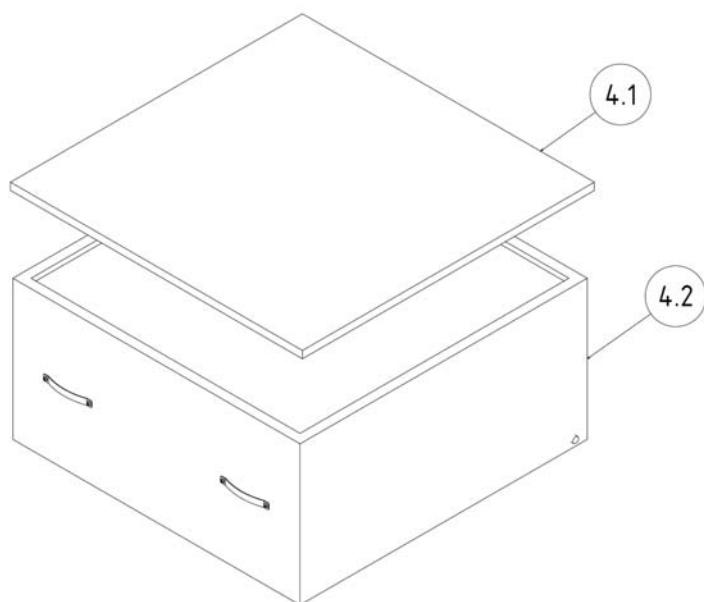

Figure 6, Filter structure
- Remove the plug-in pre-filter module (Fig. 6, item 4.1) out of the filter so as to avoid dust whirling and put it on a working bench.
- Lift the main filter (Fig. 6, pos. 4.2) at the front slightly using the lugs to release the seal from the mating surface and remove it from about two -thirds from the filter housing so that the filter pins remain lying on the side guide rails.